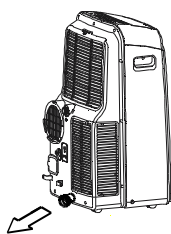

Fig.22
- When the water level of the bottom tray reaches a predetermined level, the unit beeps 8 times, the digital display area shows "P1" . At this time the air conditioning/dehumidification process will immediately stop. However, the fan motor will continue to operate(this is normal). Carefully move the unit to a drain location, remove the bottom drain plug and let the water drain away(Fig.22). Reinstall the bottom drain plug and restart the machine until the "P1" symbol disappears. If the error repeats, call for service.